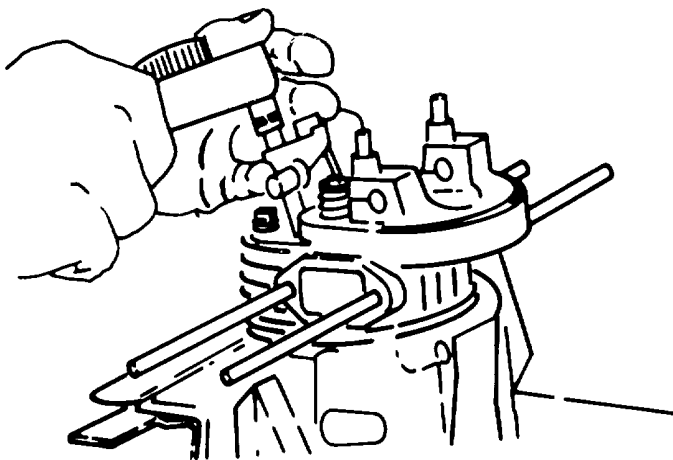

Figure A-54. Fuel Injector
m. Fuel Injector. Replace the asbestos washer located in the cylinder head on the seating surface for the fuel injector holder. **Never** place a new gasket on top of the old. Install the fuel injector and injector clamp. Torque the two injector clamp nuts to engine specification. (Figure A-54.)